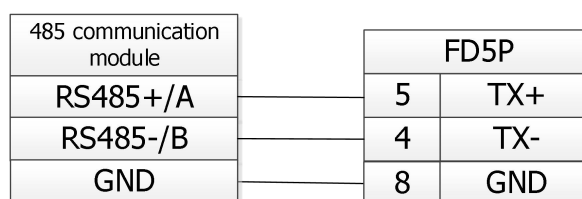

Figure 10-2 RS485 signal wiring
The RS485 port of FD5 series servo driver supports MODBUS communication function, which can be used to modify the internal parameters of the servo and monitor the servo state. The communication line of the master station is connected to the X4A(IN) and the X14B(OUT) is connected to the next slave station device. Figure 10-2 show the cable connections.